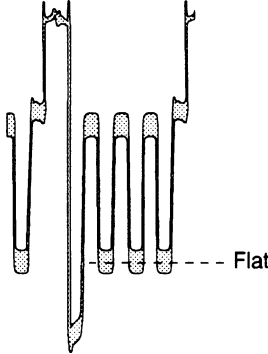

Fig. 2.7B
- 6. Select item 1 COLOUR SATURATION (2 or 8 button).
- 7. Adjust the data so that the waveform is as shown in figure 2.7B (4 or 6 button):
- 9. Select item 2 HUE (2 or 8 button).
- 10. Adjust the data so that the waveform is also as shown in figure 2.7B (4 or 6 button).